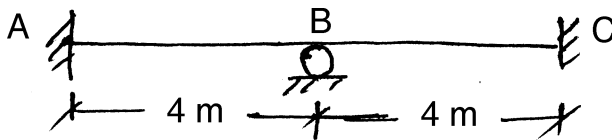

Fig. 1
1. Draw ILD for  $M_A$ ,  $R_B$  and  $M_C$  of beam shown in Fig. 1. Show the ordinates at 1 m interval. 12